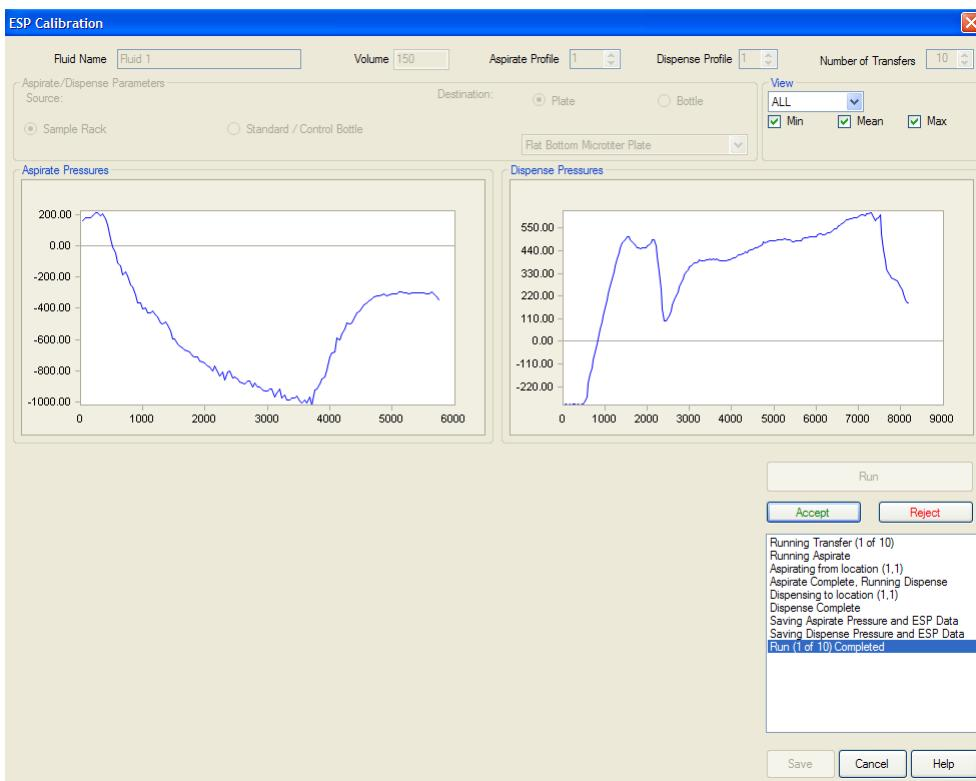

Figure 4-25: ESP Calibration – Results
8. Follow the instructions in the load wizard to prepare the system and click **Done**. The DS2 will then perform the fluid transfer and display the results (Figure 4-25).